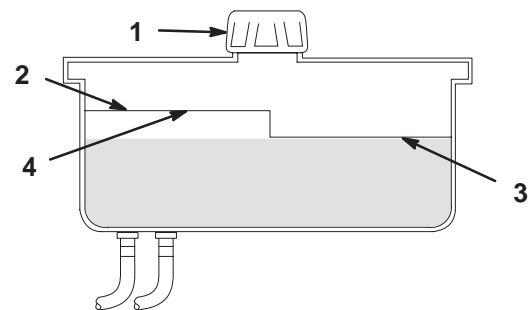

Figure 51
- Clean the area around the filler neck of the hydraulic tank (Fig. 51).
- Remove the cap from the filler neck. Look inside to check if there is fluid in the reservoir (Fig. 51).
Note: The fluid level should be to the top of the *hot* level of the baffle, when the fluid is warm (Fig. 51).